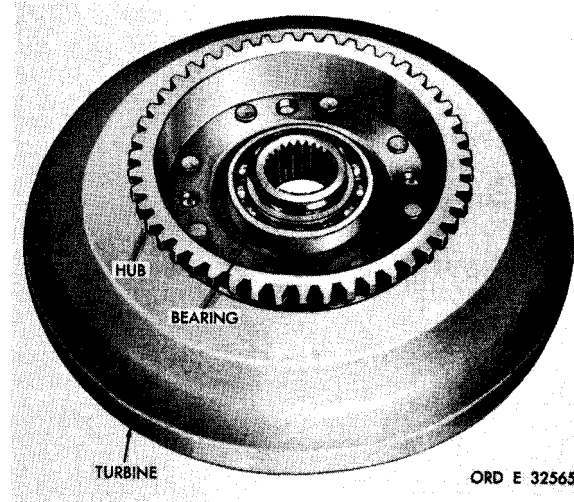

Figure 146. Torque converter turbine assembly
(1) Do not remove the ball bearing from the turbine assembly, unless replacement is necessary (fig. 146).
(2) If necessary to remove the bearing, pry it from the turbine hub.
(2) Install ball bearing 91 in converter pump hub 88.
(3) Install retaining ring 92, retaining bearing 91 in pump hub 88.
(4) Install two hook-type seal rings 87 on converter pump hub 88.
(5) Install converter pump hub 88 with component parts in converter pump 83 and secure with four lock strips 89 and eight self-locking bolts 90. Tighten the bolts to 9-11 pound-feet torque. Bend a corner of each lock strip 89 against the head of each bolt 90.
c. Torque Converter Turbine. If ball bearing (fig. 146) was removed, press a new bearing on the hub of the converter turbine. Be sure the bearing is firmly seated on the hub.